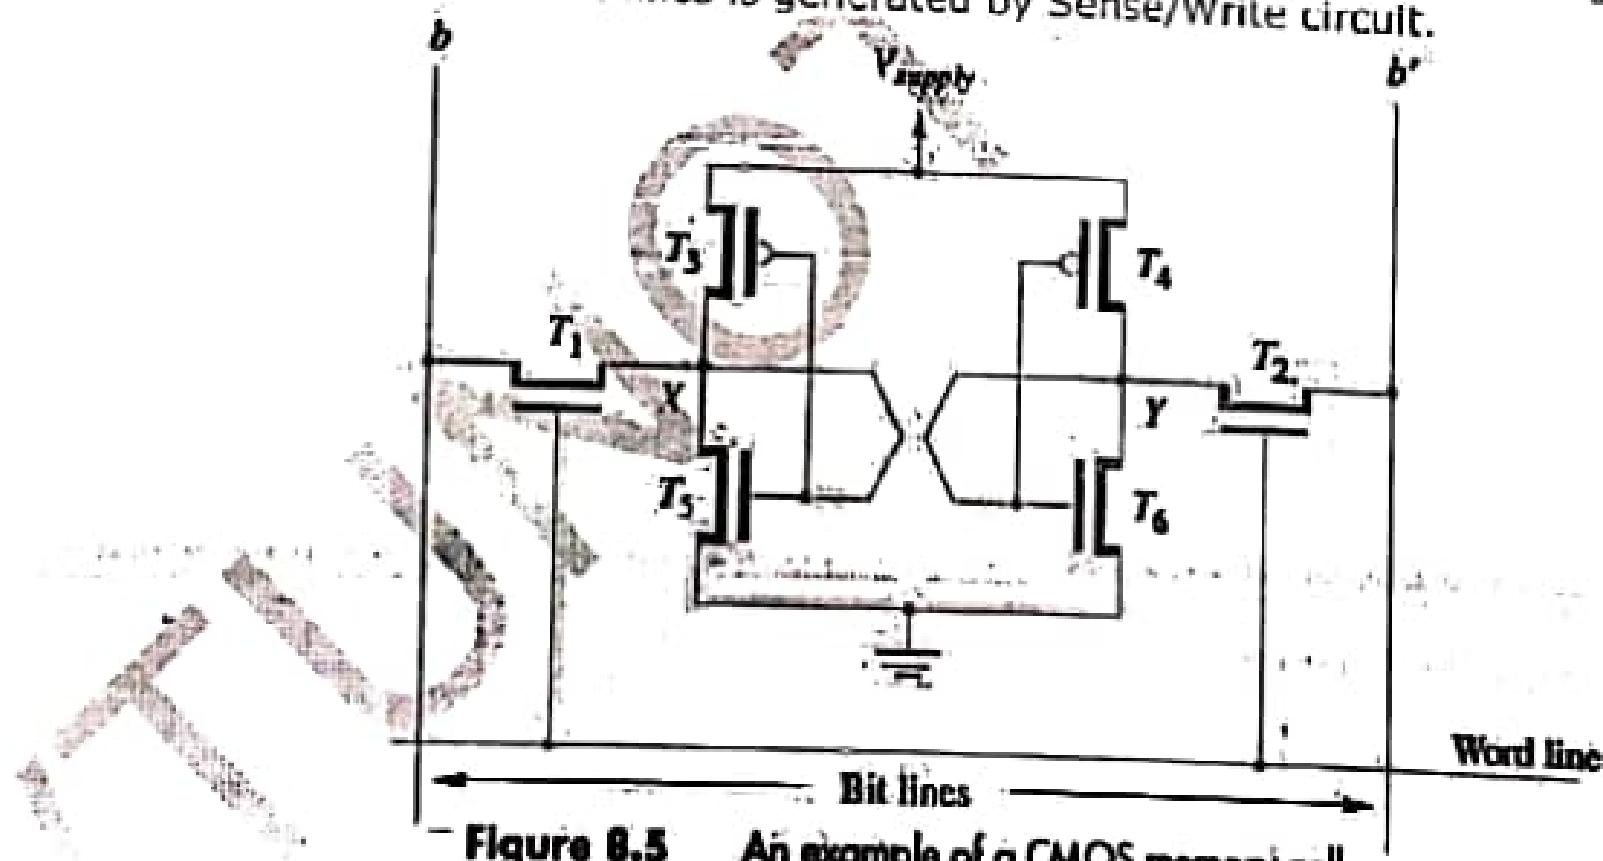

Figure 8.5 An example of a CMOS memory cell.
- Transistor pairs (T_3, T_5) and (T_4, T_6) form the inverters in the latch (Figure 8.5).